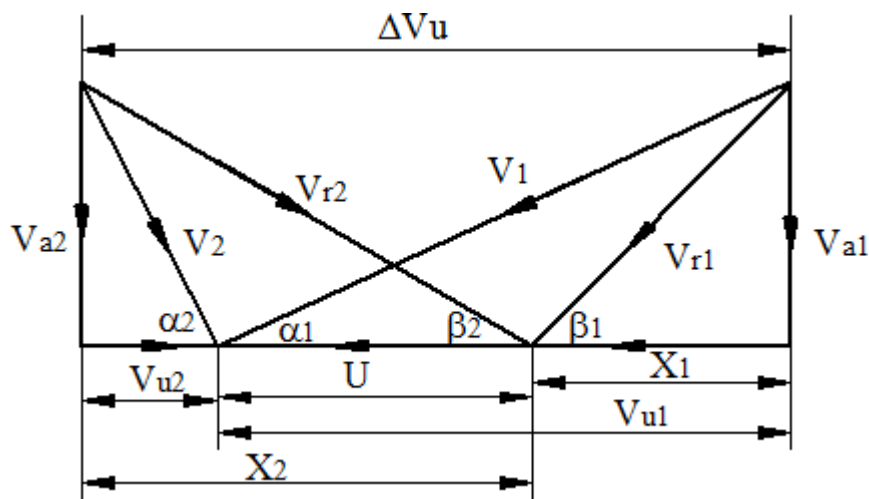

Fig. 4.6 Combined velocity diagram for an axial flow impulse turbine
**Answer:** The combined velocity diagram for an axial flow impulse turbine is as shown in figure 4.6.